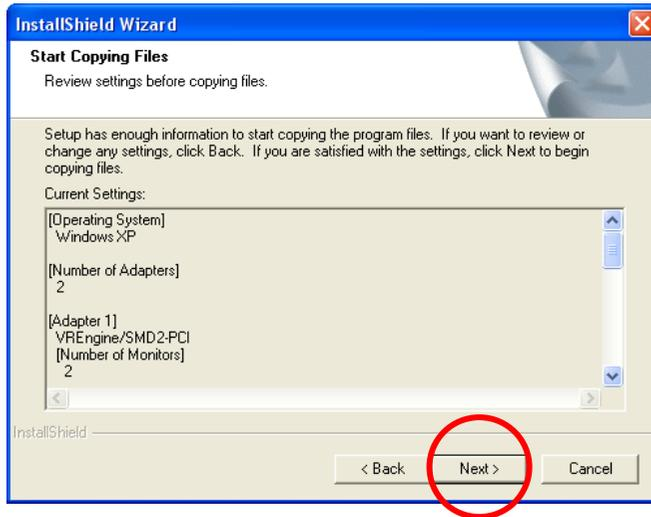

Fig. 15 Start Copying Files dialog
- The installer tries to match each connected monitor with its list of known monitor types. If it succeeds, it skips directly to the Start Copying Files dialog in Fig. 15. If it cannot match one or more monitors, the Monitor selection dialog will appear. Select the type of Monitor 1 from the list.